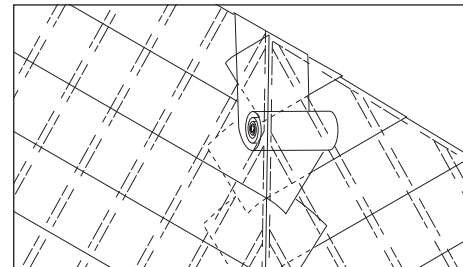

Fig. 12 – Underlay at hip
- 2 Ensure that a minimum lap of 150mm is maintained (Fig. 12).